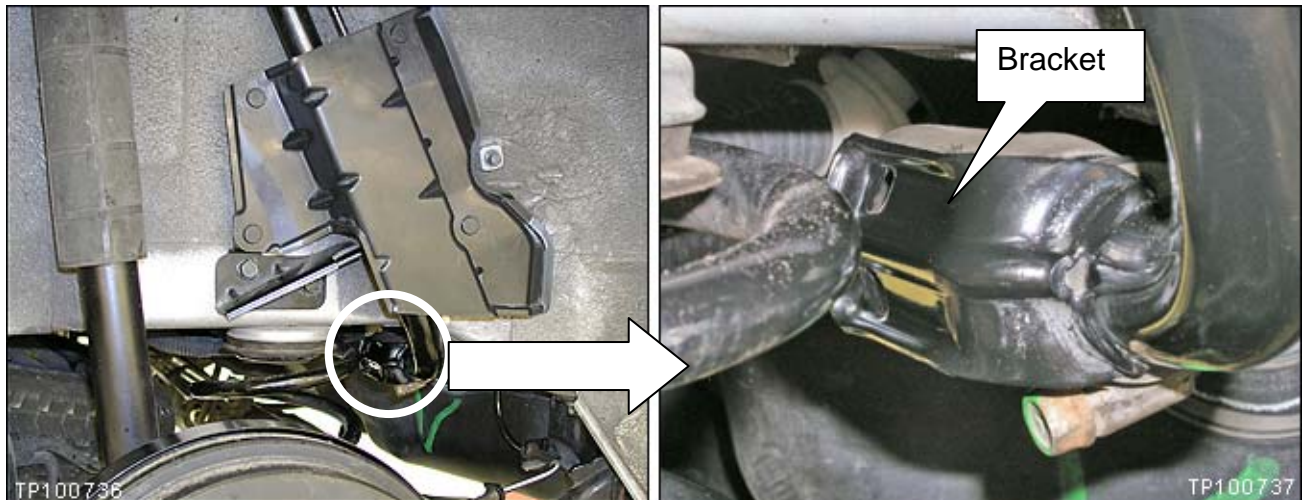

Figure 24
30. Locate the bracket at the lower end of the fuel filler tube (see Figure 24).